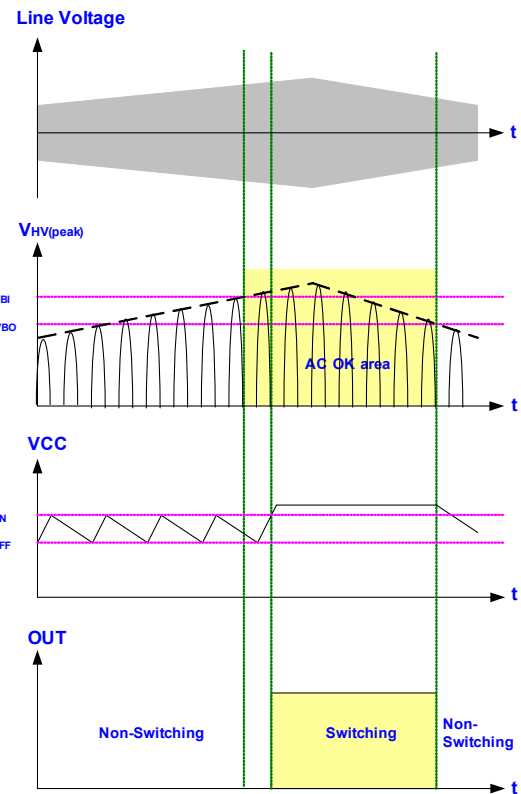

Fig. 11
The LD5763K3 features burn-in/out function on HV pin. As the built-in comparator detects the half wave rectify line voltage condition, it will shut off the controller to prevent from any damage. Fig. 11 shows the operation. When $V_{HV} < HVBO$, the gate output will remain off even when the VCC already reaches UVLO(ON). It therefore forces the VCC hiccup between UVLO(ON) and UVLO(OFF). Unless the line voltage rises over $HVBI$ V_{AC} , the gate output will not start switching even as the next UVLO(ON) is tripped. A hysteresis is implemented to prevent the false-triggering during turn-on and turn-off.